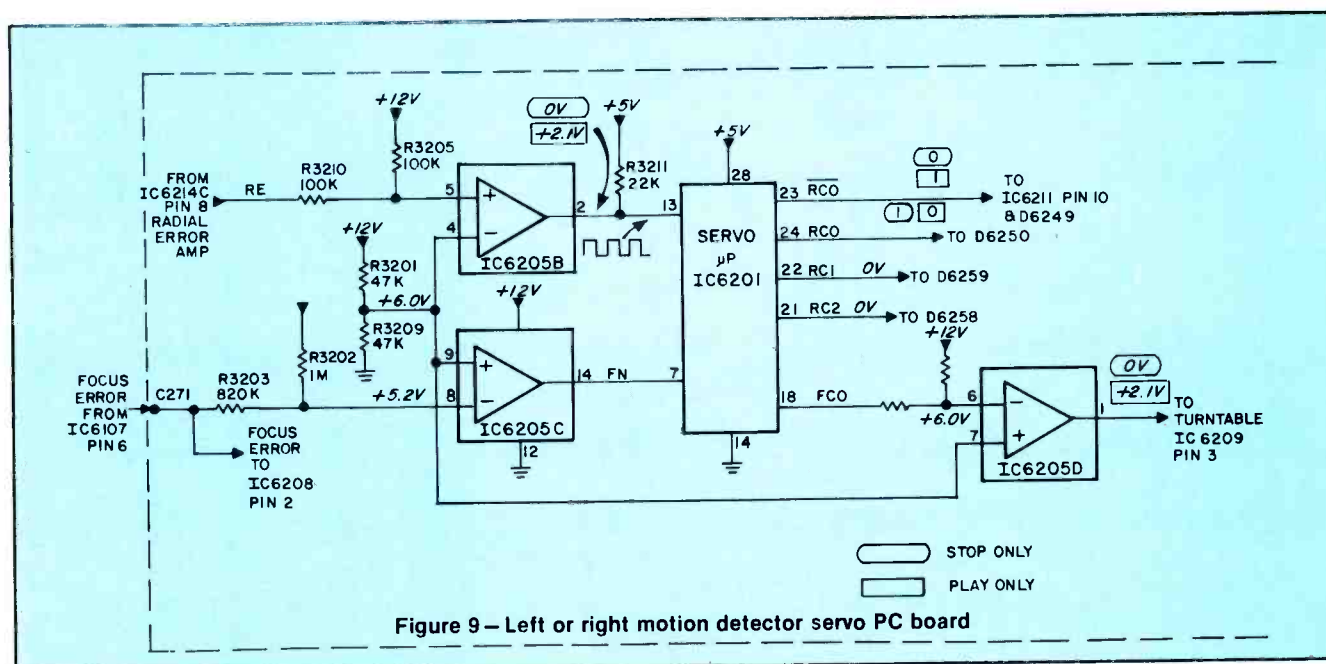

Figure 9 – Left or right motion detector servo PC board
Figure 9 shows the left and right motion detector circuit. The radial error (RE) signal from IC6214C pin 8, Figure 3, is applied to pin 13 of the servo microprocessor. The microprocessor measures the time between two consecutive positive going signals, which is approximately 0.5ms. If the speed of the arm's motion across the tracks is constant, the time between the two consecutive pulses will also be constant. If the speed is too slow, the time between the positive going edges of the square wave will be longer than nominal. If the speed is too high, the time will then be shorter than nominal.